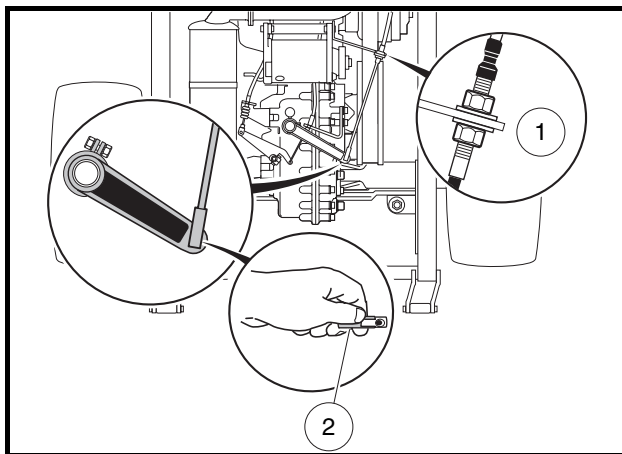

Figure 19-15 Shifter Cable (Top View)
- 4.7. Loosen nuts securing shifter cable to shifter cable mounting bracket. Then disconnect the shifter cable rod end from the shifter arm on the unitized transaxle and remove the cable from the cable mounting bracket (**Figure 19-15, Page 19-8**).